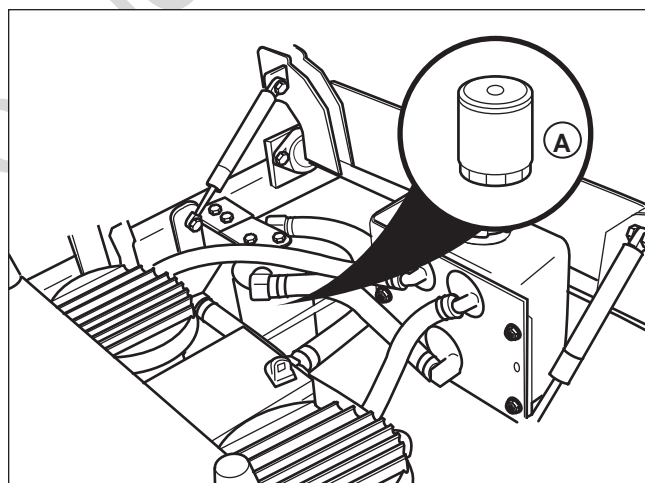

Figure 14. Hydraulic Oil Filter Location
1. Locate the hydraulic oil filter (A, Figure 14) behind the oil reservoir.